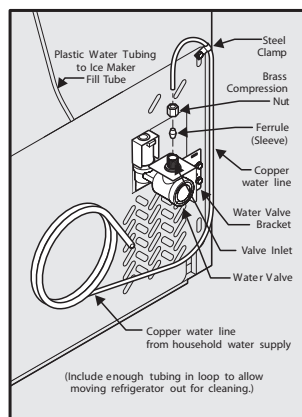

Figure 1
4. **If you use copper tubing** - Slide brass compression nut, then ferrule (sleeve) onto water supply line. Push water supply line into water valve inlet as far as it will go (¼ inch / 6 mm). Slide ferrule (sleeve) into valve inlet and finger tighten compression nut onto valve. Tighten another half turn with a wrench; **DO NOT** overtighten. See Figure 1.